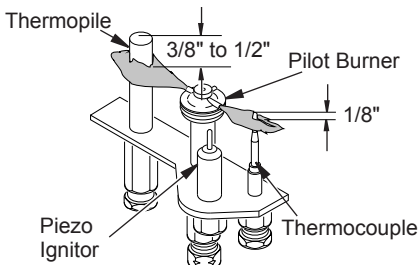

Figure 49 - Pilot Assembly
- Turn the adjustment screw marked PILOT clockwise to decrease or counterclockwise to increase the flame to proper size (see Figure 49). Do not remove the adjustment screw.